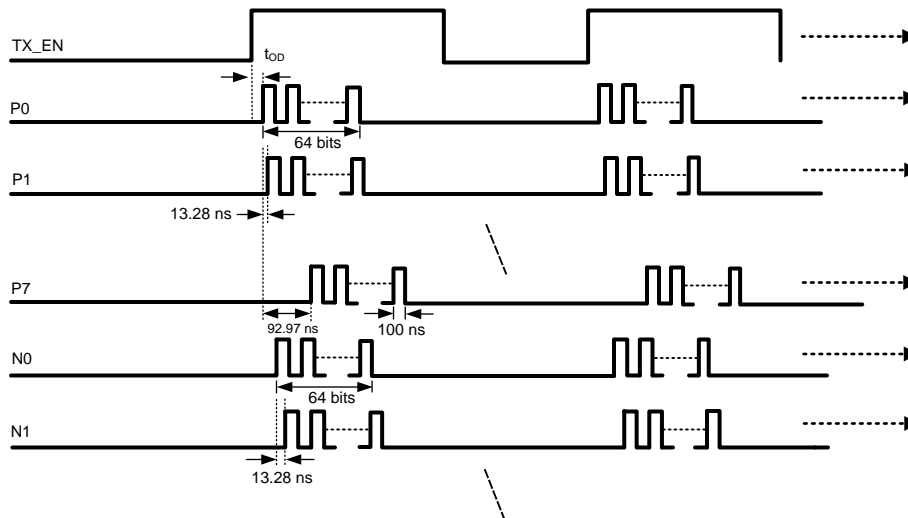

Figure 16. Beamformer Output with Example 1A Parameters
- After firing is complete for all channels, “TX_EN” is pulled low, as the beamformer waits for the next firing signal, i.e., when “TX_EN” is pulled high. See Figure 16 for firing diagram.